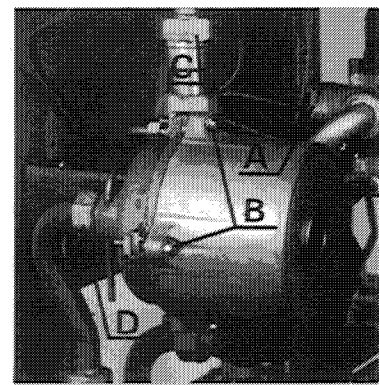

Fig. 24
- Release thermocouple from thermoelectric valve (A fig. 24).
- Unscrew valve (A fig. 24) from rear of gas section using a 35 mm or adjustable spanner.
### 8.4 To replace pump (fig. 24)
### 8.5 To remove pump and volute (fig. 24)